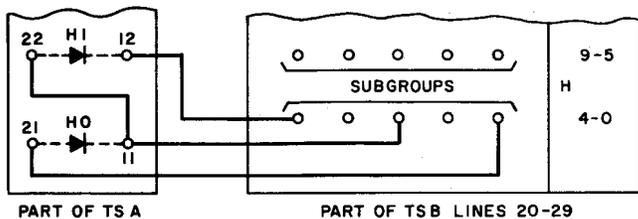

Fig. 8—One-Way Sequential Hunting Group Consisting of Station Lines 20, 22, and 24
2.10 One-way sequential hunting can be provided only if all the lines to be included are in the same subgroup of 5 lines (0-4 or 5-9) and the hunting sequence conforms with the numerical sequence of the line numbers. For example, as shown in Fig. 8, if line 20 is dialed and found busy, call will be completed to line 22, if idle. If line 22 is busy, however, call will be completed to line 24, if idle. If line 24 is dialed and found busy, call will be routed to busy tone.